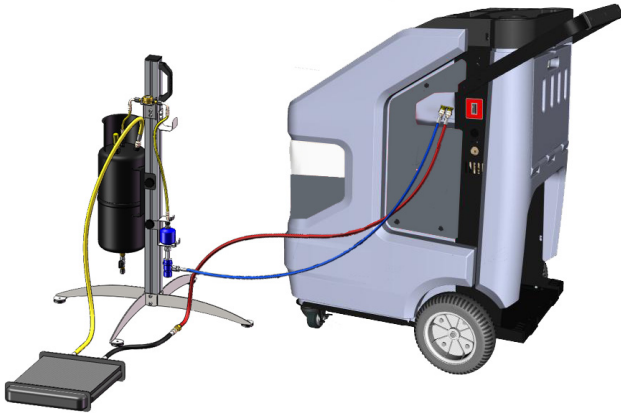

Fig. 13: Flush device connected to unit
6. Connect as shown in Fig. 13.